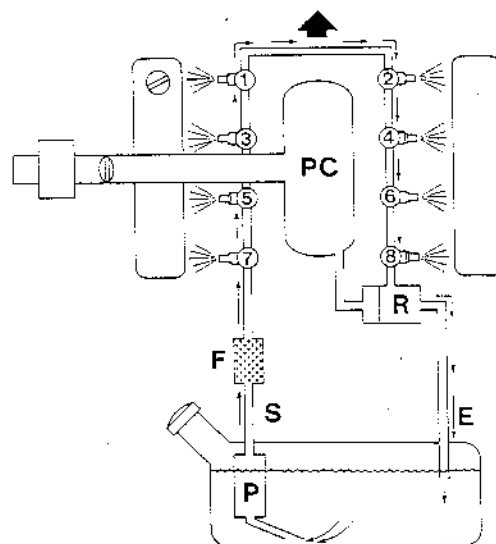

Fig.1 Fuel System
The submerged electric pump (P) draws fuel from the fuel tank (see fig.1). The pump passes the fuel along the fuel supply pipe (S), through a fine mesh (2 micron) in-line filter (F) to the injector rail and injectors (1 - 8). Fuel pressure is controlled by the regulator (R) and excess fuel returns to the fuel tank via the return pipe (E).